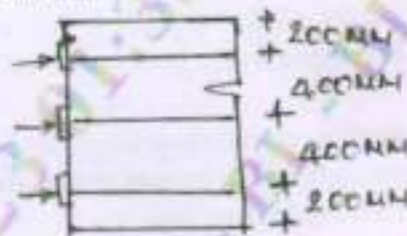

Fig. Q9
- 9 The end section of an I-beam is thickened to a rectangular section 600 mm wide and 300 mm wide and 1200 mm deep for a length of 1200 mm from end and is provided with 3 nos. of cables, each consisting of 120 mm diameter anchorage cone. The cables are placed as shown in Fig. Q9, and effective prestress in each case is 450000 N. Design the end anchorage by the empirical method advocated by cement and Congress association. Assume tensile stress in mild steel as 140 N/mm^2 . (20 Marks)